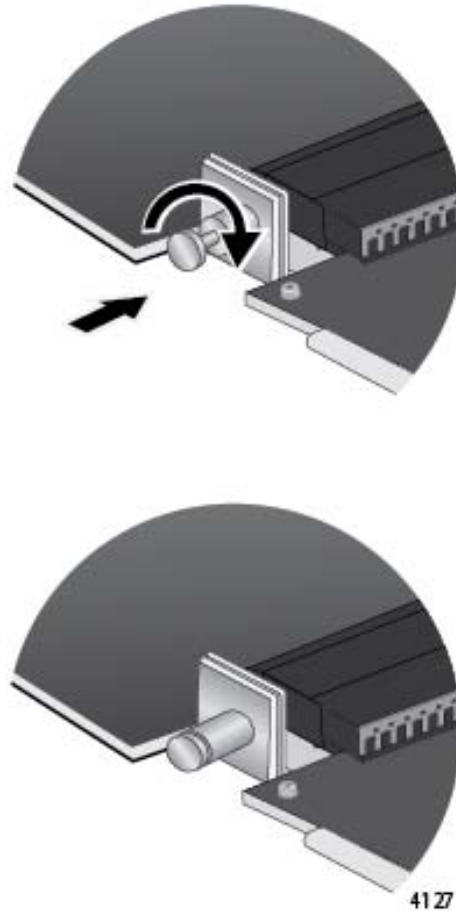

Figure 82. Releasing the Retaining Pin
11. Turn the retaining pin on the side of the line card one quarter turn to release it. Refer to Figure 82 on page 152.